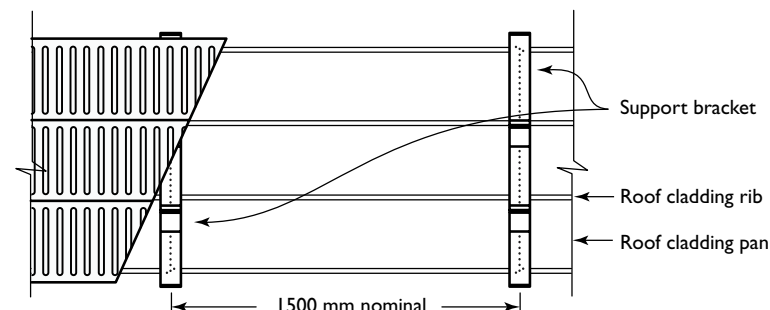

Figure 1
- If the ROOFTRAK is to be parallel to the roofing ribs: position the support bracket centrally across the ribs, ensuring that it is square to the roofing ribs (Figure 1).
Position the second and subsequent support brackets on a rib nominally 1500 mm from the previous support bracket (Figures 1 and 2). Use a string line and/or square to ensure a straight run.